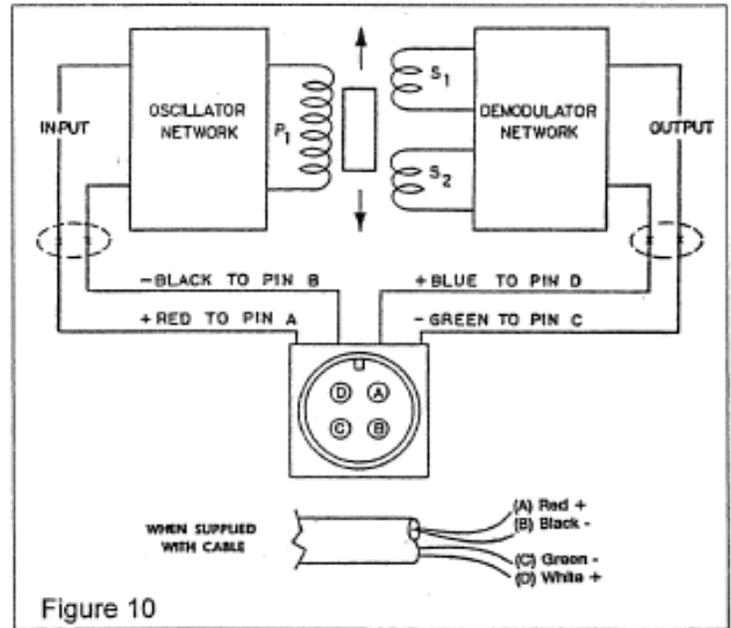

Figure 10
3. Observing correct polarity, connect the positive (+) input lead to Pin A and the negative (-) input lead to Pin B. (See Figure 10)
4. Connect the positive (+) output lead to Pin D and the negative (-) output lead to Pin C. (See Figure 10)
2. Connect a voltmeter to Pins C and D (See Figure 10)